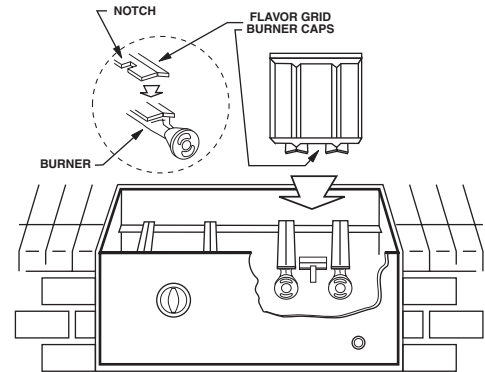

Figure 4- Flavor Grid Diagram
a. Place the flavor grid burner caps directly on the burners. Make sure the notched end of the burner cap rests over the ignitor box (Figure 4). Center the grids over the burners with the open side up. This allows heat from the burners to be evenly distributed